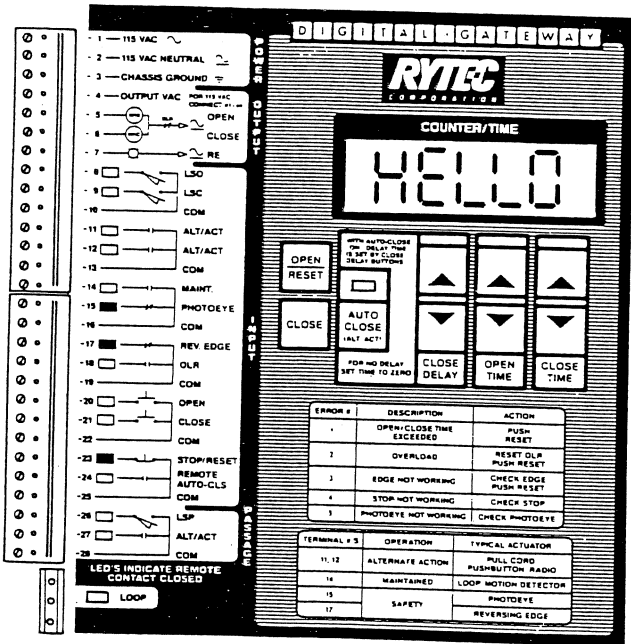

Figure 5.
1.7.1 The display will read "HELLO." See Figure 5.